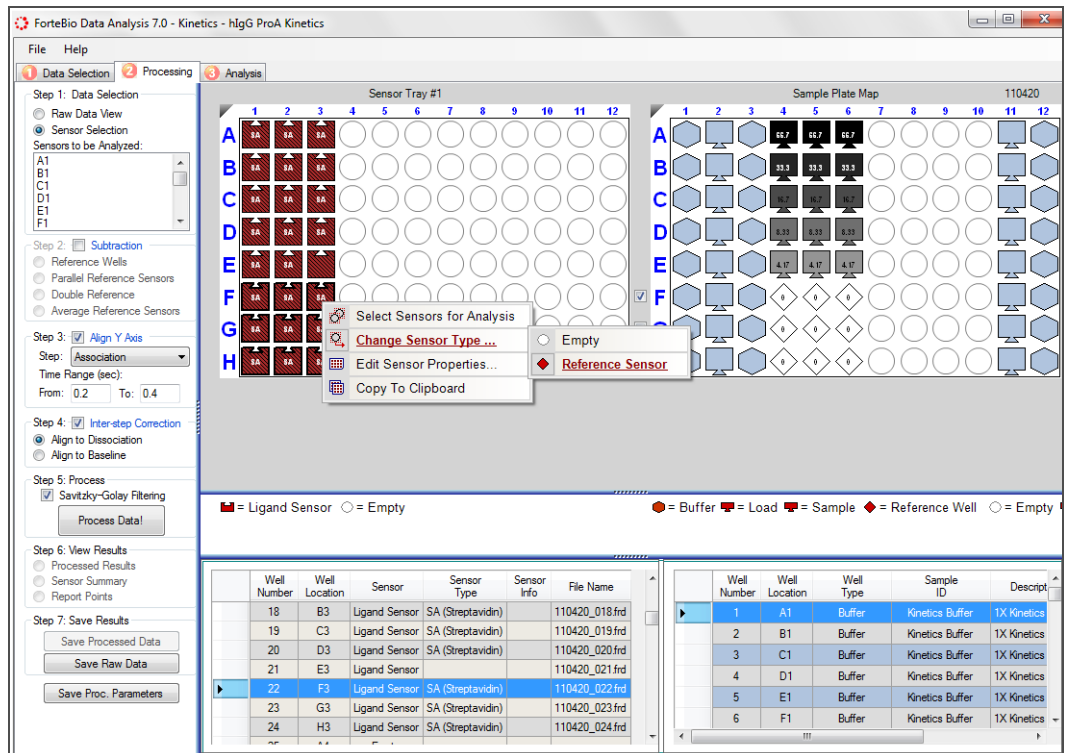

Figure 5-18: Changing the Biosensor Type
- b. Right-click and select **Change Sensor Type > Reference Sensor** (Figure 5-18).